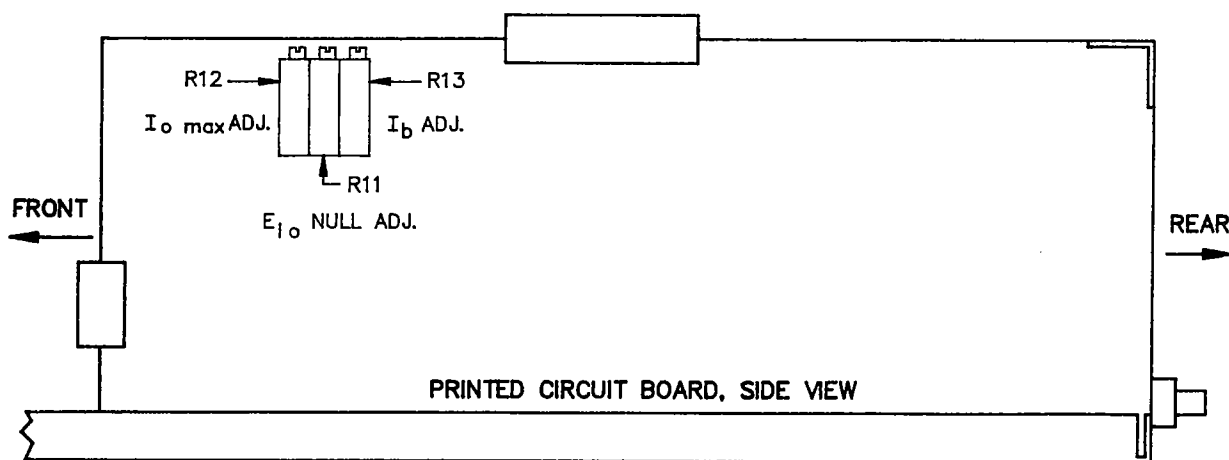

FIGURE 2-1 LOCATION OF INTERNAL CONTROL
- c) INTERNAL ADJUSTMENTS AND CALIBRATIONS: Refer to FIG 2-1 and TABLE 2-1
- c) With S1 "open", and $R_{VC} = 5K$ ohms for example, approximately 5 volts will be read-out on M1. Adjust " I_b Adj." (control current calibration, R13, see FIG. 2-1 for location) until exactly 5 volts are read-out on M1.
- d) Close S1 and note deviation from zero on M1 (approx. 2 to 8 mV negative). Adjust " E_{i0} null" (zero adjustment, R11, see FIG. 2-1 for location) until exactly zero volts are read-out on M1.